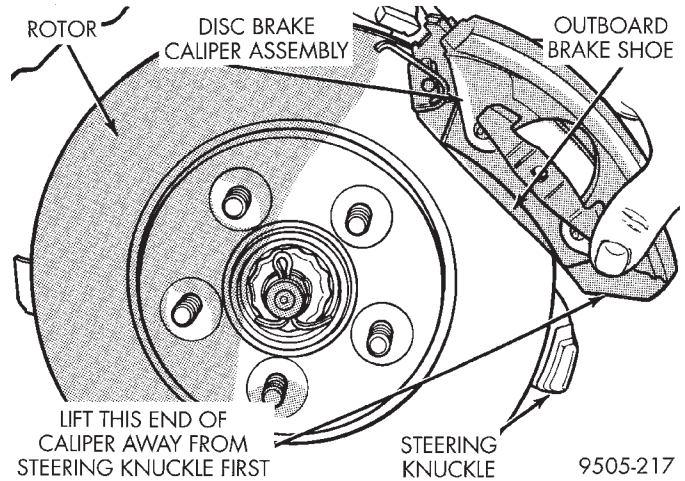

Fig. 42 Disc Brake Caliper Removal
(6) Remove disc brake caliper assembly from steering knuckle. Caliper is removed by first lifting bottom of caliper away from steering knuckle, and then removing top of caliper out from under steering knuckle (Fig. 42).